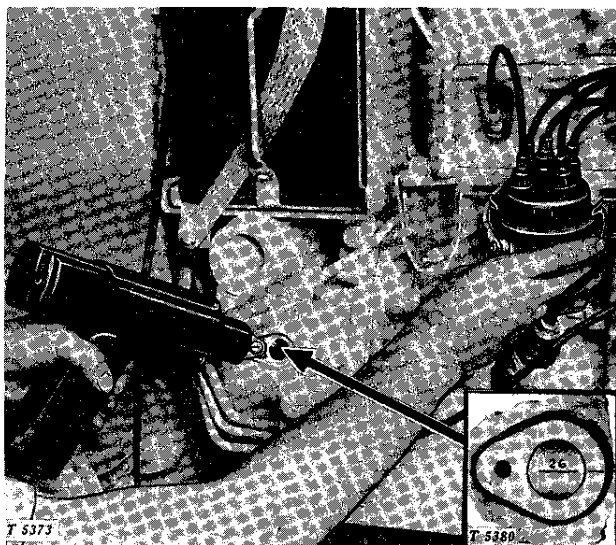

Fig. 40-10-6 -- Timing Distributor with Timing Light
2. Uncover timing hole (Figure 40-10-6).
6. Direct timing light toward timing hole in center frame (Fig. 40-10-6) and rotate distributor body until "26" mark on flywheel lines up with mark on timing hole.